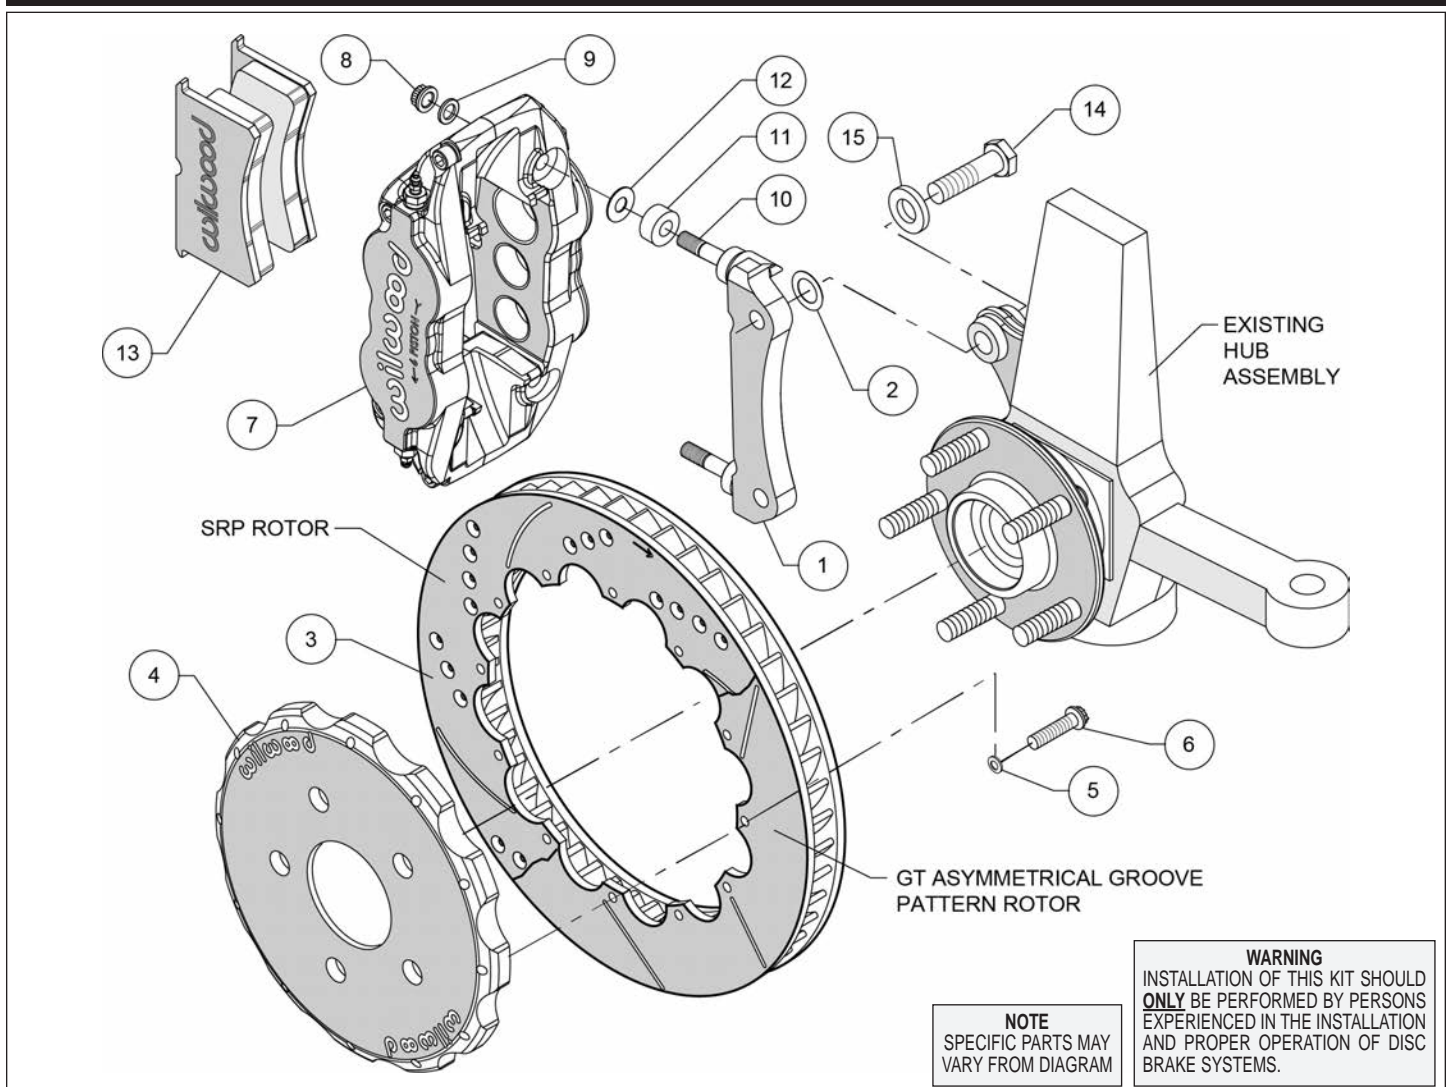
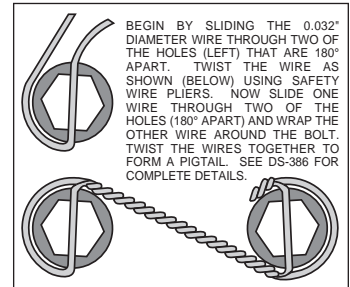

Figure 1. Typical Installation Configuration
Figure 3. Safety Wire Diagram
Assembly Instructions (numbers in parenthesis refer to the parts list and Figure 1 on the preceding pages):
- The caliper mount bracket (1) should initially be installed with clean, dry threads on the mounting bolts. Orient the bracket, as shown in Figure 1 and install using bolts (14) and washers (15). Initially place one .029" thick shim (2) on each bolt between the bracket and upright, Figure 1. Temporarily tighten the mounting bolts. **NOTE:** *The bracket must fit squarely against the mount bosses on the upright.* Inspect for interference from casting irregularities, machining ridges, burrs, etc. Later, after the caliper alignment has been checked, the mount bolts will be secured using red *Loctite*[®] 271.
- Orient the rotor (3) and the hat (4) as shown in Figure 1 and Photo 1. Attach rotor to hat using bolts (6) and washers (5). Using an alternating sequence, apply red *Loctite*[®] 271 to the threads, and torque to 155 in-lbs. For an added measure of security, the bolts may be safety wired using standard 0.032 inch diameter stainless steel safety wire as shown in Figure 3. Refer to Wilwood's data sheet DS-386 (available at www.wilwood.com/Pdf/DataSheets/ds386.pdf) for complete safety wire installation instructions.
- NOTE:** *This kit contains distinct right and left hand calipers that must be mounted in a specific direction, as described below.* Lubricate the caliper mounting studs (10) with lightweight oil. Initially place one .035" thick shim (12), and spacer (11) on each stud as shown in Figure 1 and Photo 2. Mount the caliper (7) onto the bracket (1) using lock nuts (8) and washers (9), Figure 1. Ensure that the caliper is mounted so that the largest pistons are at the rotor exit end of the caliper, in relation to the direction of rotor rotation. Temporarily tighten the lock nuts and view the rotor through the top opening of the caliper. The rotor should be centered in the caliper, Photo 3. If not, adjust by adding or subtracting shims (2) between the bracket and the upright. Always use the same amount of shims on each of the two mounting bolts. Once the caliper alignment is correct, remove the bracket mounting bolts (14) one at a time, apply red *Loctite*[®] 271 to the threads, and torque to 77 ft-lb.